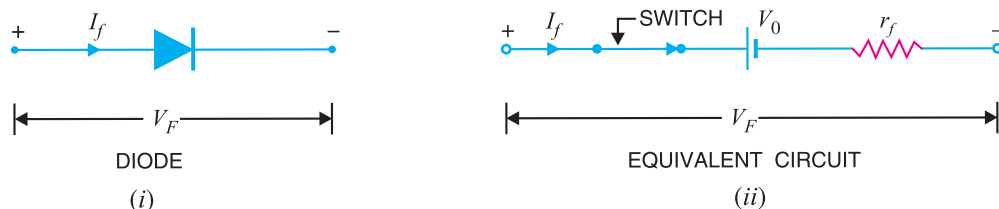

Fig. 6.7
**(i) \*Approximate Equivalent circuit.** When the forward voltage  $V_F$  is applied across a diode, it will not conduct till the potential barrier  $V_0$  at the junction is overcome. When the forward voltage exceeds the potential barrier voltage, the diode starts conducting as shown in Fig. 6.7 (i). The forward current  $I_f$  flowing through the diode causes a voltage drop in its internal resistance  $r_f$ . Therefore, the forward voltage  $V_F$  applied across the *actual* diode has to overcome :
Therefore, approximate equivalent circuit for a crystal diode is a switch in series with a battery  $V_0$  and internal resistance  $r_f$  as shown in Fig. 6.7 (ii). This approximate equivalent circuit of a diode is very helpful in studying the performance of the diode in a circuit.